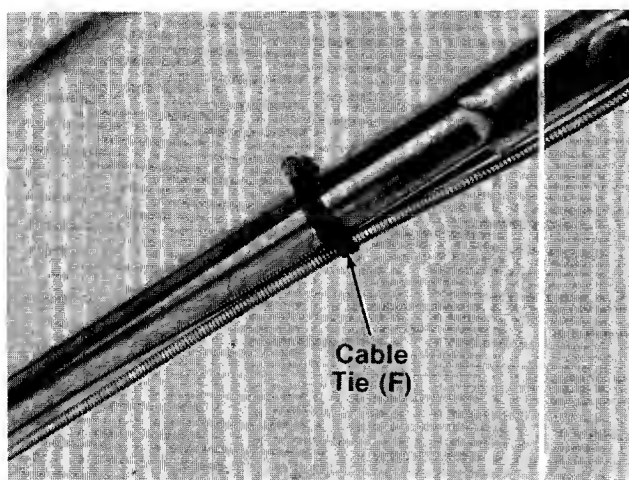

FIGURE 8.
13. Secure throttle control and brake cables to upper and lower handles with cable ties (F). See figure 8.